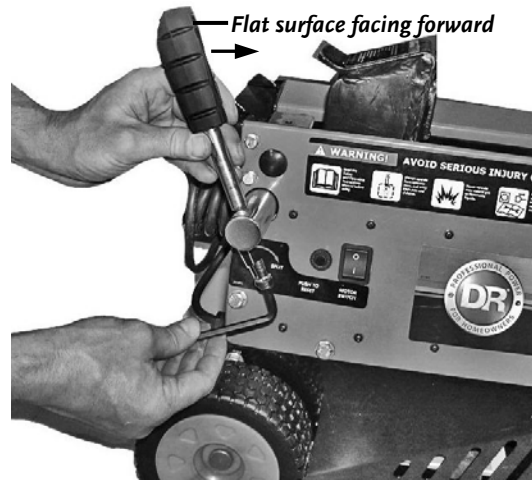

Figure 8
9. Insert the Operating Handle Shaft into the recessed hole on top of the cylindrical shaft protruding from the right rear side of the machine. Thread the Retaining Bolt with Washer up through the hole in the bottom of the cylindrical shaft and into the Operating Handle shaft (*Figure 8*).
10. While holding the Operating Handle Grip tight with the flat surface of the Operating Handle Grip facing forward, tighten the Retaining Bolt using the 6mm Hex Wrench (*Figure 8*).